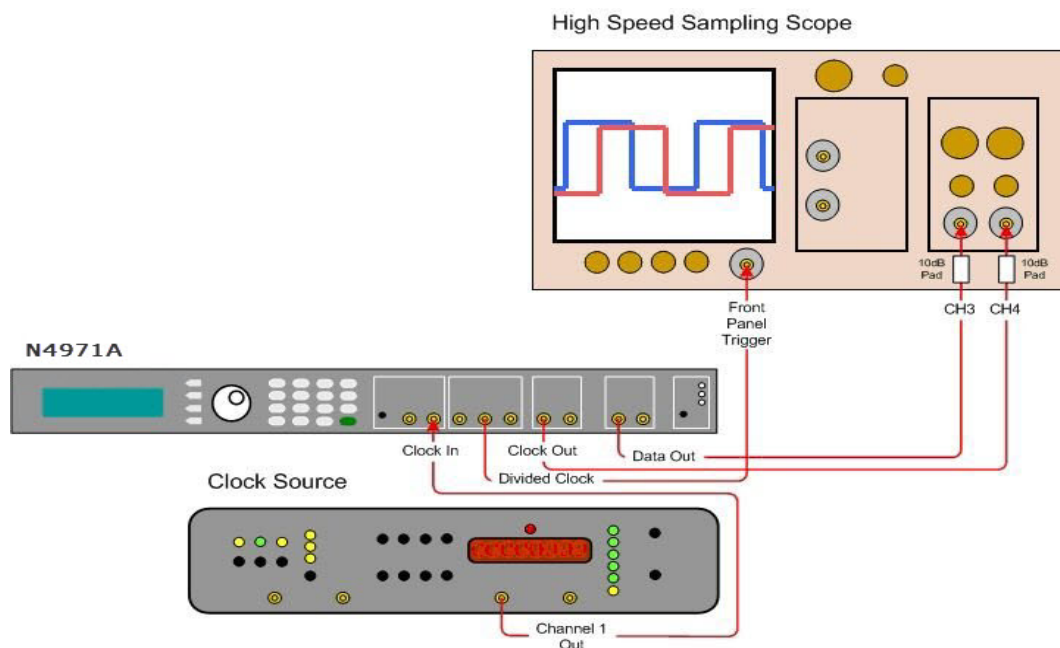

Figure 2. Installation setup
3. Connect the N4971A to a clock source and high speed sampling scope as shown in Figure 2.